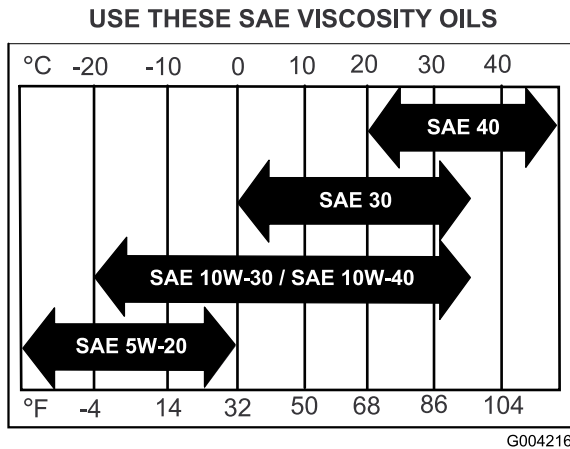

Figure 34
**Viscosity:** Refer to the table (Figure 34).